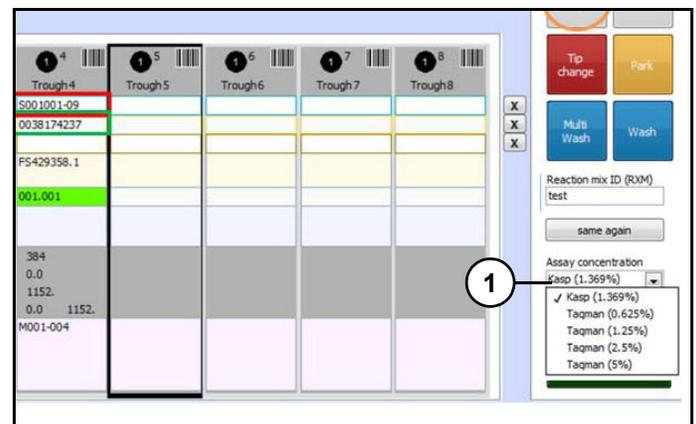

Figure 47
2. Select "Assay concentration" (1) (Figure 47) to be used in reagent mix.